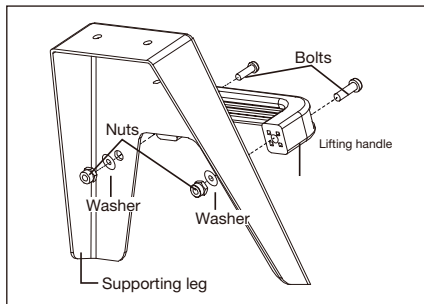

Fig. 1
1. Place the lifting handle on the supporting leg, fix them together with the provided bolts, nuts and washers. Tighten securely (Fig. 1).